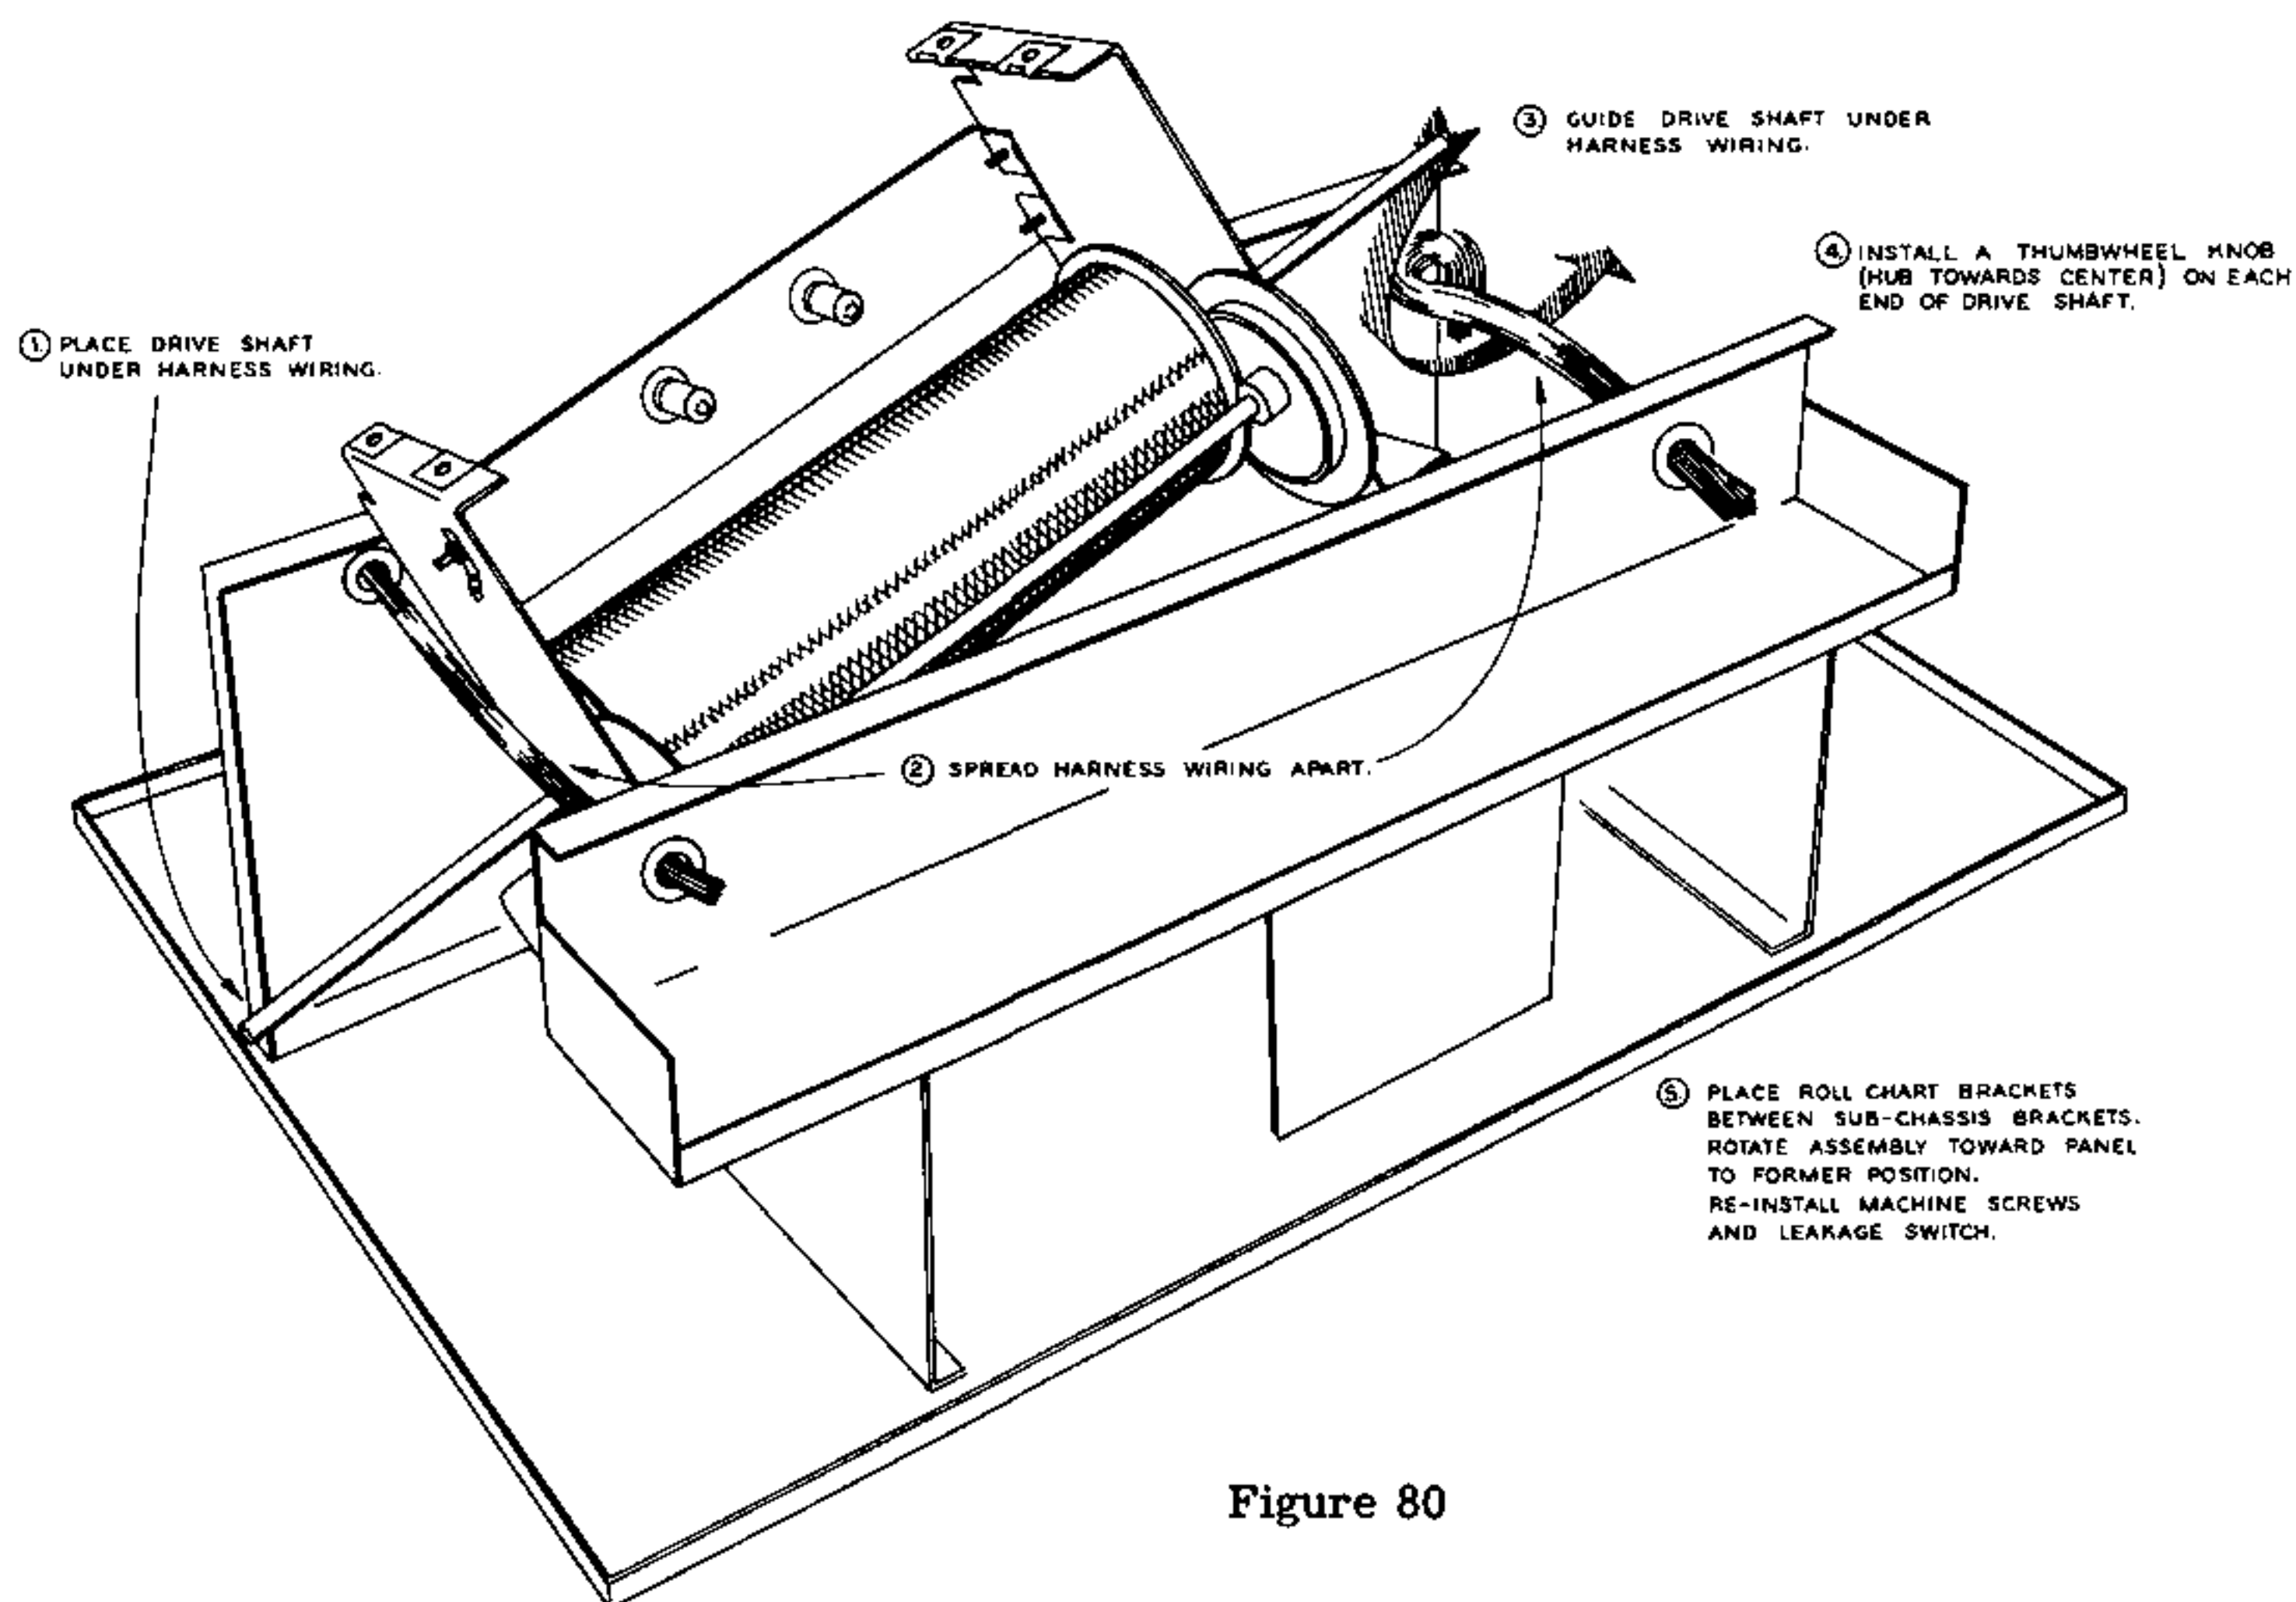

Figure 80
- ( ) Replace the roll chart assembly in the tube tester, following the steps as outlined in Figure 80.